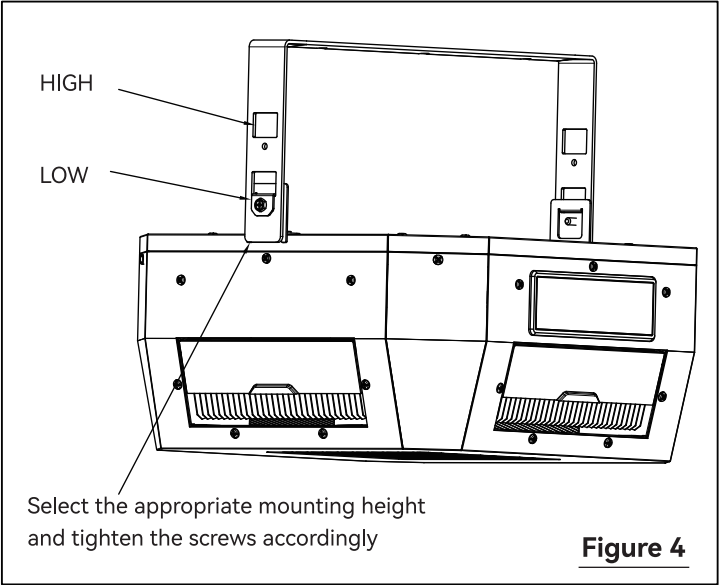

Figure 4
- 4.If the heater needs to be adjusted for mounting height, it must be installed in the corresponding keyhole slot. (Figure 4)